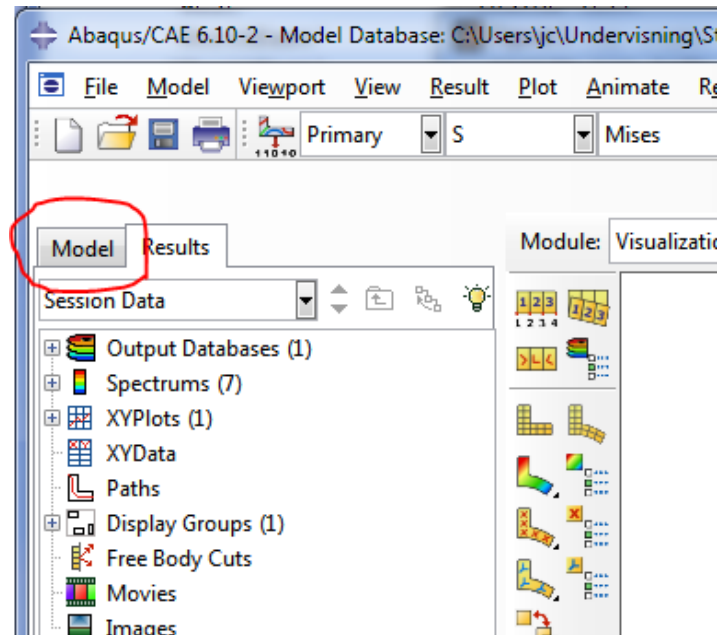

Figure 14. The location of the model tab.
1. First we will return to the modeler. Click on the model tab as shown in Figure 14.